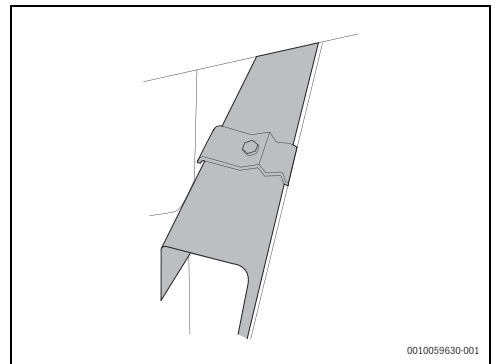

Fig. 12
- ▶ Make sure that all components (including the collector clamps → fig. 12) are correctly aligned before tightening the screws.